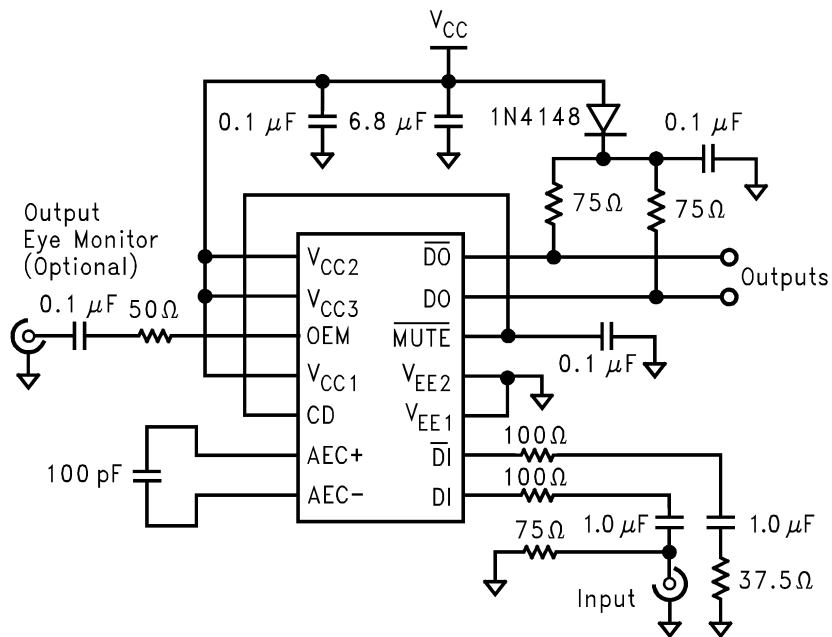

Figure 17. CLC014 Equalizer Application Circuit
Carrier Detect (CD) is a CMOS output that indicates the presence of equalized data from the filter. This CD output can be connected to MUTE to suspend changes in the data outputs DO and DO-bar, if no valid signal exists. This simple configuration prevents random output transitions due to noise. For sparse transition patterns it is recommended that a capacitor be connected to CD as shown in Figure 17.
The OEM is a high-speed, buffered output for monitoring the equalized eye pattern prior to the output comparator. Its output is designed to drive an AC-coupled 50Ω coaxial cable with a series 50Ω backmatch resistor. The cable should be terminated with 50Ω at the oscilloscope. Figure 17 shows a schematic with a typical connection.
The CLC014 operates from either +5V or –5.2V single supplies. Refer to Figure 17 when operating the part from +5V. When operating with a –5.2V supply, the V_{EE} pins should be bypassed to ground. The evaluation board and associated literature provide for operation from either supply.